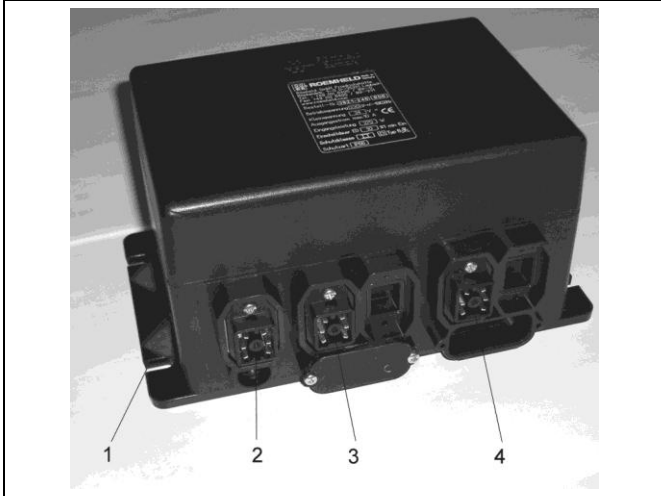

Figure 5: Supply unit for 1 modulog lifting module
- The control modules for 3 and 4 moduhub modules have an additional auxiliary power supply. This must be connected with the control module. (see figure 5).